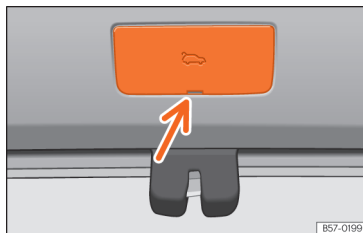

Fig. 63 Luggage compartment: access to manual release.
- Remove the cover using the key blade as a lever >>> Fig. 63.